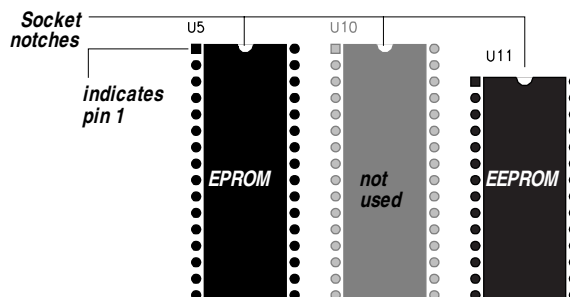

Figure 5-23 EPROM and EEPROM socket notches on the motherboard
2. *Insert the new chip so that the notch in the chip is aligned with the notch in the socket (see Figure 5-23 on page 5-32).*